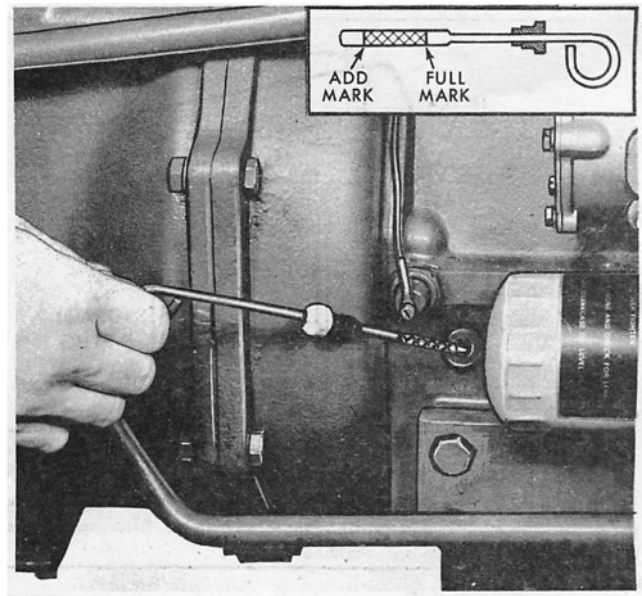

Figure 22
1. With the tractor standing level, and after the engine has been stopped for a period of time, check the oil level with the dipstick, Figure 22.